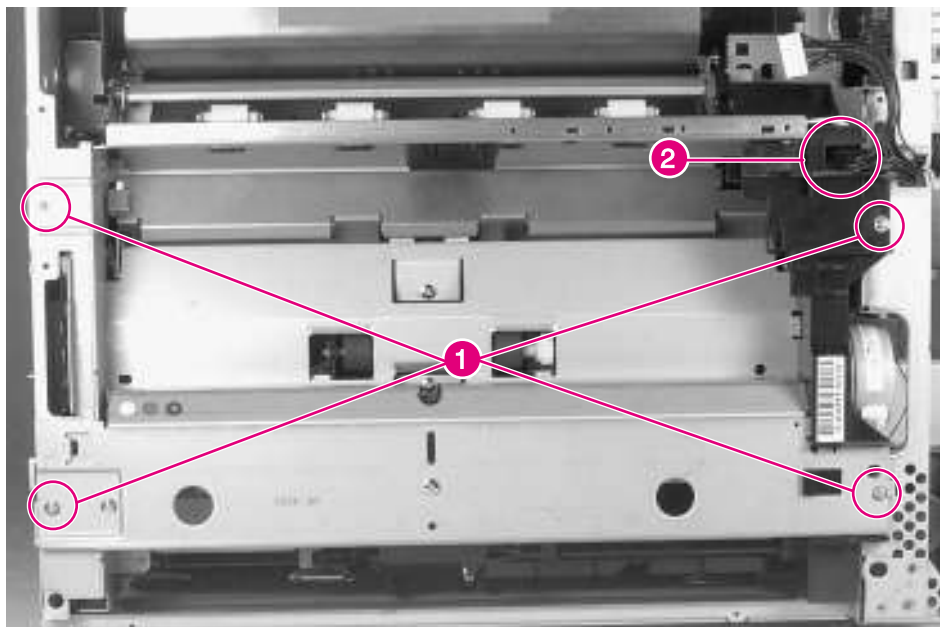

Figure 6-42 Paper Input Unit
- Paper Input Unit (PIU) (see figure 6-42 on page 314)
- 5 Remove 4 screws (figure 6-42, callout 1).
- 6 Slide the assembly out from the chassis approximately 3 inches, and unplug the connector inside the right end (figure 6-42, callout 2).